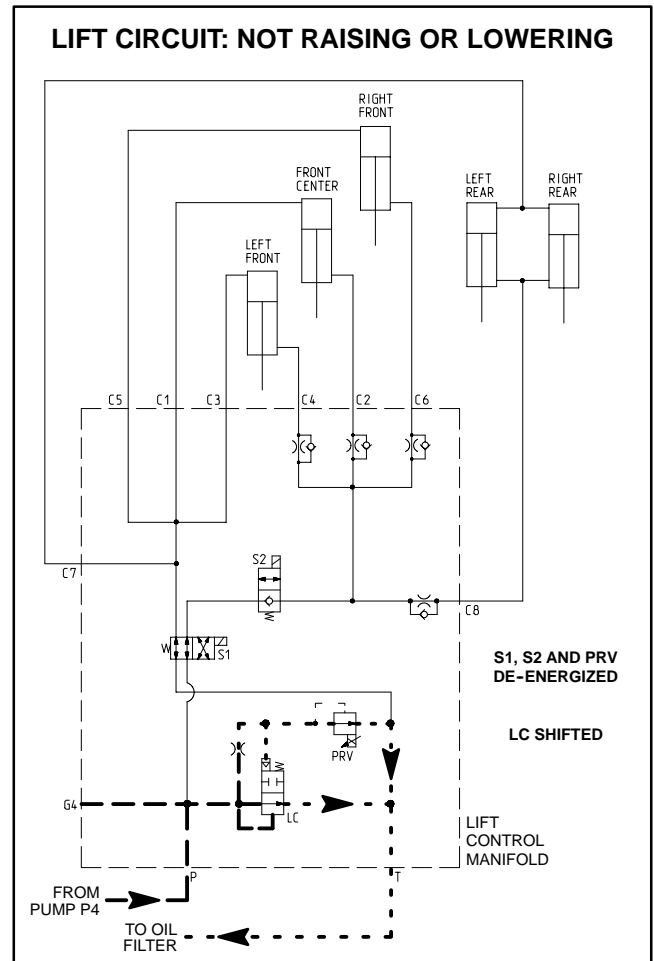

Figure 17
While operating the machine during conditions of not raising or lowering the cutting decks (joystick in the neutral (center) position) (Fig. 17), all of the lift manifold valves (S1, S2 and PRV) are de-energized. The de-energized relief valve (PRV) allows hydraulic flow to return to tank through the manifold. This flow causes a pressure differential that shifts the logic cartridge (LC) which allows pump flow to bypass the lift cylinders. Flow returns to the oil filter and then to the hydraulic reservoir.